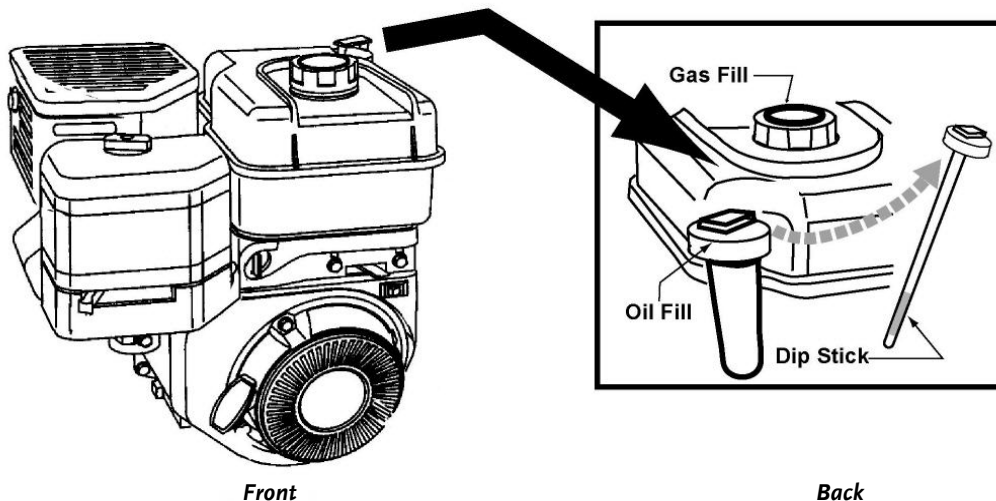

Figure 26
1. Place the machine on a level surface and initially add 16 oz. ($\frac{1}{2}$ quart) of SAE 30 oil, recommended by the engine manufacturer, and wait one minute for the oil to settle (**Figure 26**).
2. Check the dipstick and continue adding a few ounces of oil at a time, rechecking the dipstick until the oil reaches the fill mark. Be careful not to overfill (**Figure 26**).
2. Check the engine oil level every time you use the machine (see **Figure 26** on page 26).
3. Check the gasoline level (see **Figure 26**).